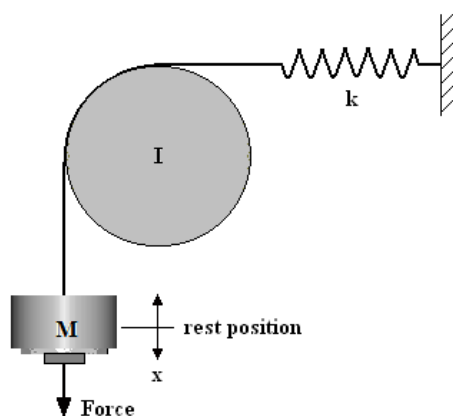

Figure 12
4. A large drum of radius 0.12 m is mounted on a horizontal shaft. A belt runs over it as shown in Fig. 12 with a mass of 10 kg on one end. The other end is restrained with a spring of stiffness 788 N/m. The drum has a moment of inertia of 0.04 kg m2. Determine the following.